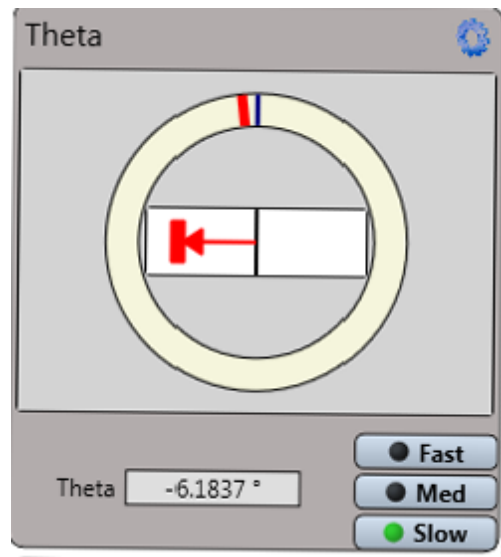
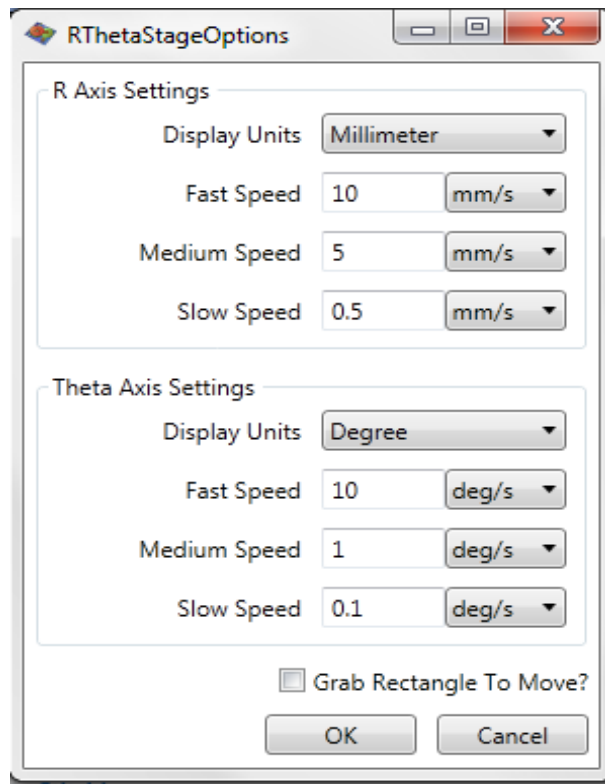

Figure 3-12: Theta Stage Control
Figure 3-13: RTheta Stage Options Dialog Box
- 1 In the Theta Control Panel in the Live Video Display (see Figure 3-12), click the blue Gear icon in the upper right corner to enter the units as well as the speeds for Fast, Medium, and Slow on both the R Axis and the Theta Axis (see Figure 3-13). If you select the **Grab Rectangle to Move** check box, you must grab the red rectangle in the middle of the Theta Control Panel before you can adjust the theta position of the motorized stage. When your settings are complete, click **OK**.